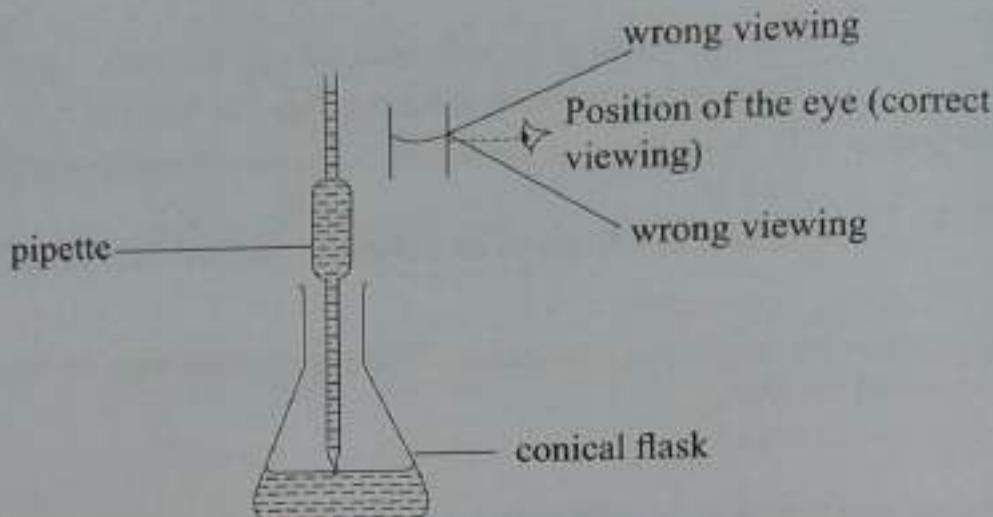

Fig. 4.4: Correct reading of pipette
- Note that when the solution falls below the mark, you have to re-fill all over again. This wastes time. To avoid this, hold the pipette upright and read the bottom of the meniscus. See Fig. 4.4.